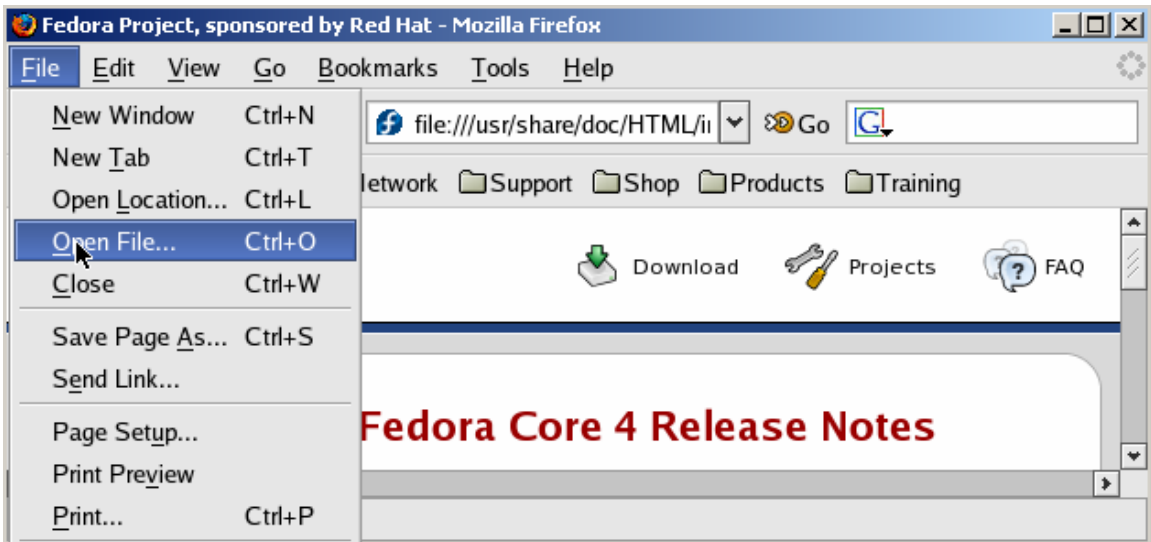

Figure 2. Open a file in a Web Browser.
3. Go to File... Open File (Figure 2).